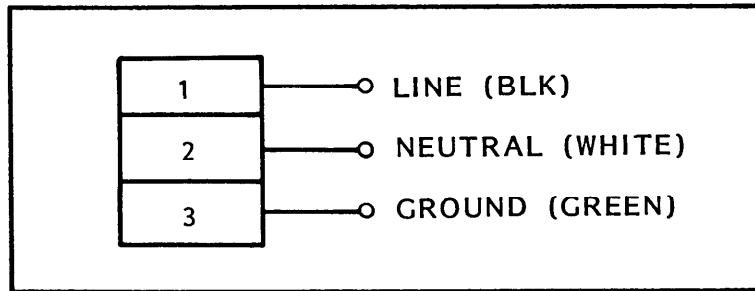

Figure 9
2. Remove the black cover on the input voltage terminal (Figure 9) to expose the input terminal screws.